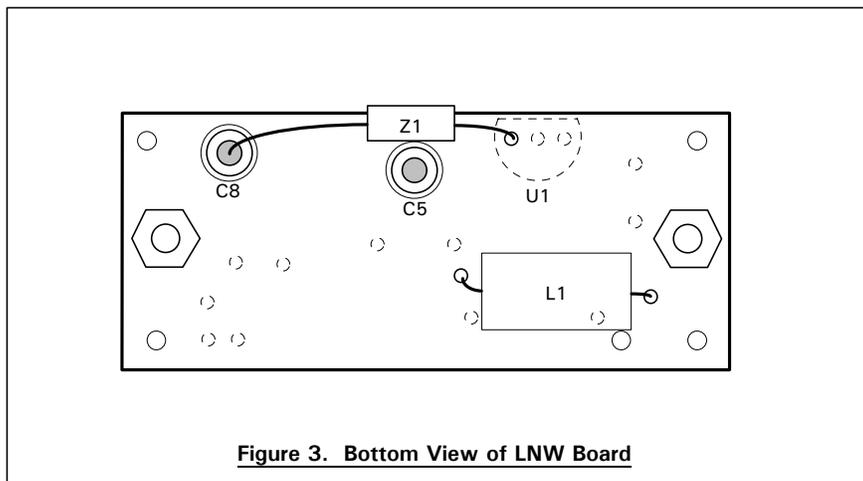

Figure 3. Bottom View of LNW Board
i. Turn the preamp over, and orient it as shown in figure 3. Position ferrite bead Z1 as shown. Note that positioning the body of the bead against the feed-through capacitor prevents its leads from shorting to anything. Solder one lead to the inside metalization of ft cap C8, and tack solder the other lead to the pad for the left-hand lead of U1 as shown. If there already is solder on the bottom of C8, melt it and slide the lead in.